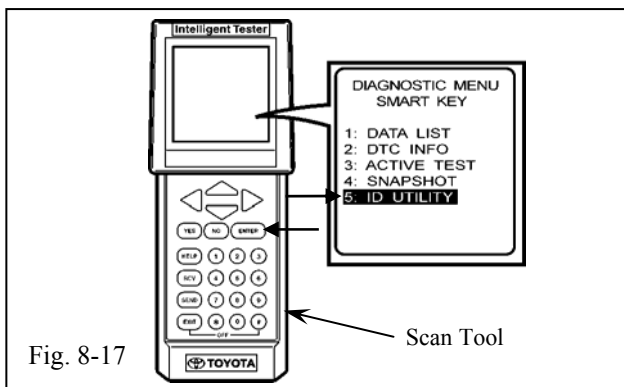

Fig. 8-17
- (y) Select "ID UTILITY" in the Diagnostic Menu with the Scroll Key, then press the "ENTER" button. (Fig. 8-17)